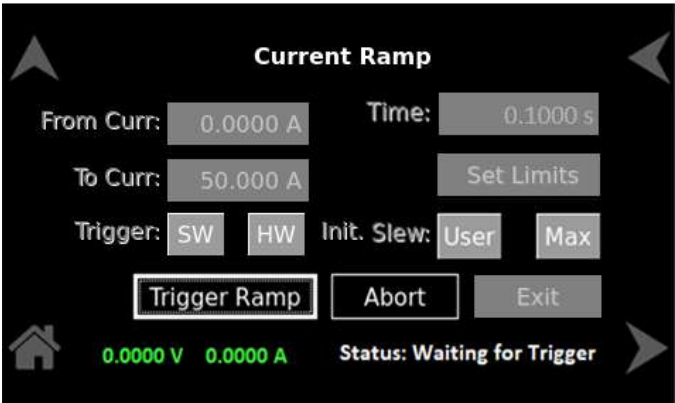

Figure 9-79. Status – Waiting for Trigger
**c) Waiting for Trigger:** When the system is waiting for the trigger, refer to Figure 9-79.